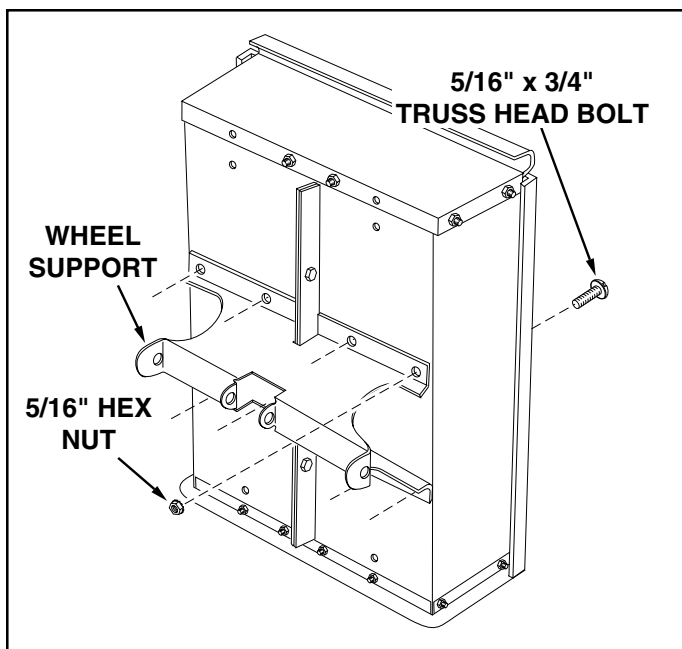

FIGURE 6
10. Assemble the wheel support to the cart using eight 5/16" x 3/4" truss head bolts and 5/16" hex nuts as shown in figure 6. Heads of bolts go on the inside of the cart. **Tighten**.